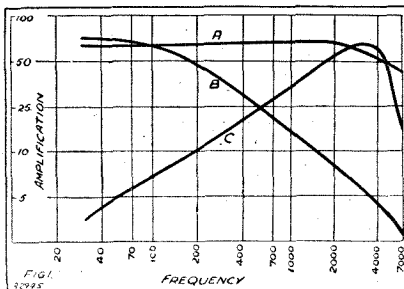

FIG. 1
My first diagram, Fig. 1, shows the curves obtained by a popular form of transformer-potentiometer tone control. With the arrangement set at "normal," a fairly straight line results (A). This indicates that all frequencies from about 30 to over 4,000 are given substantially equal amplification.
Similarly, when a further adjustment is made, it is claimed that a "treble lift" follows. I am sure every reader of THE WIRELESS CONSTRUCTOR will be able to see at once from the C curve of Fig. 1 that, in reality, the low notes have been reduced.
However, you won't lose as much as the curves Fig. 1 might appear to suggest, for those are voltage amplification curves. You have to make fairly hefty variations in voltage amplification before they are noticeable in the resultant loudspeaker volume.
first point. A "bass lift" in the literal meaning of the term could result only if the whole of the curve C in Fig. 1 were pushed up so that its bottom (left-hand) end rested on curve A. (Its "peak" would then soar right over the top of the present drawing!)